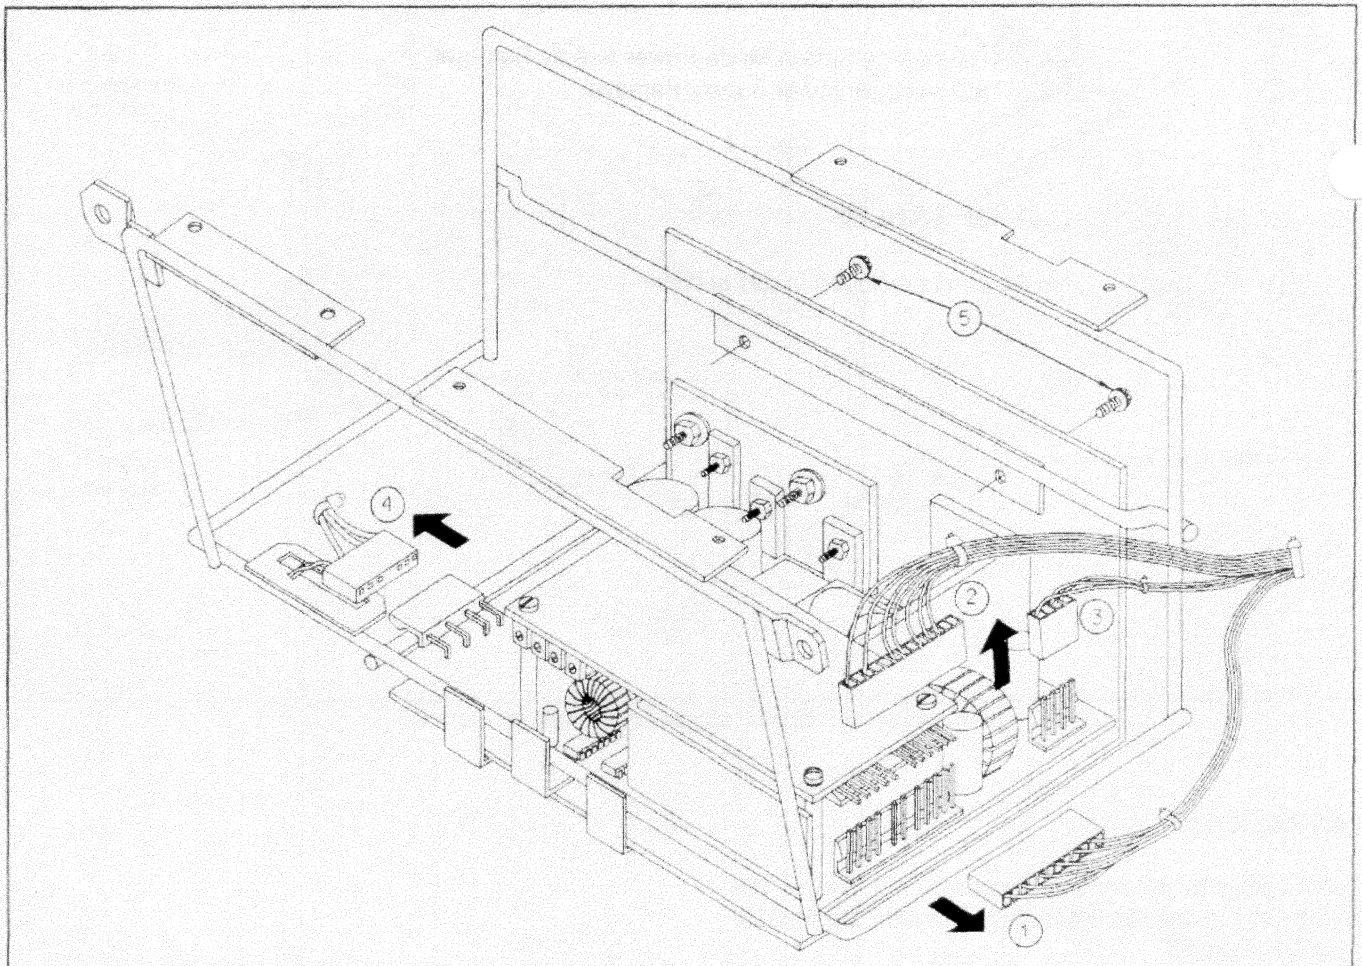

FIGURE 9-1. Low Voltage Switch Mode Power Supply Removal
- Disconnect the M14-P1, M14-P2, M14-P3 and M14-P4 connections from the module. See Figure 9-1.